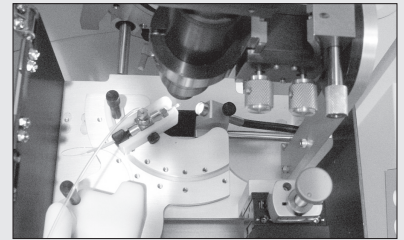

Figure 4.8 Fiber optic bundle properly installed
5. Insert the bundle adapter and the other end of the fiber optic bundle into the illuminator faceplate. Tighten the set screw to finger-tight. Figure 4.8 shows the assembled fiber optic bundle and mount.